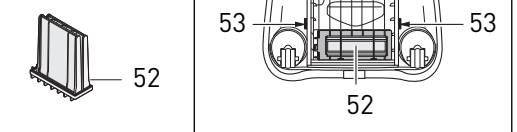

Figure 18
3. Pre-motor microfilter not properly inserted.	3. Remove the filter bag cover (26) and make sure the pre-motor microfilter housing is seated firmly in place (see pg. 12, figure 18).